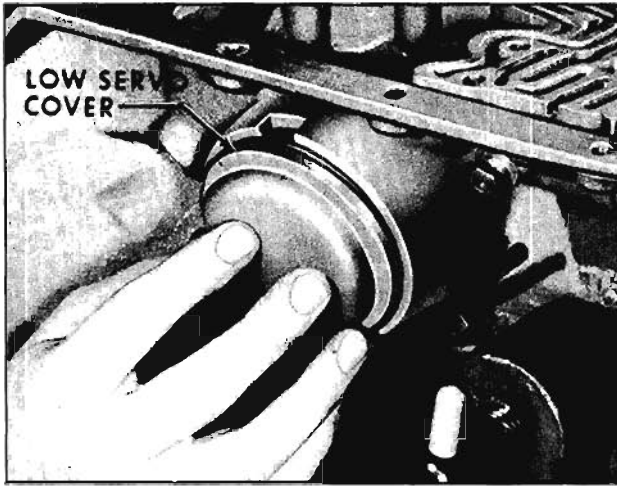

Fig. 6-431 Installing Low Servo Cover
3. Install low servo cover to case. (Fig. 6-431)